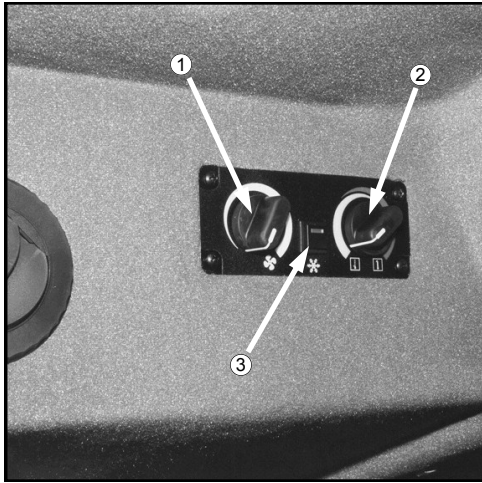

FIG 5.58
ADJUSTING FAN BLOWER SPEED - Fan blower speed is controlled by the left rotary dial on the cab climate control panel (fig. 5.58, item 1). The fan blower speed is a continuously variable adjustment. To increase fan speed, rotate fan blower dial clockwise. To reduce fan speed, rotate fan blower dial counterclockwise. To shut fan blower off, rotate fan blower dial all the way counterclockwise.
ADJUSTING TEMPERATURE SETTING - Forced air temperature adjustments are controlled by the right rotary dial on the cab climate control panel (fig. 5.58, item 2). Temperature control is a continuously variable adjustment. To increase forced air temperature, rotate temperature dial clockwise. To decrease forced air temperature, rotate temperature dial counterclockwise.
OPERATING AIR CONDITIONING - To activate the air conditioner, depress the air conditioning switch (fig. 5.58, item 3). Adjust fan speed and temperature accordingly.